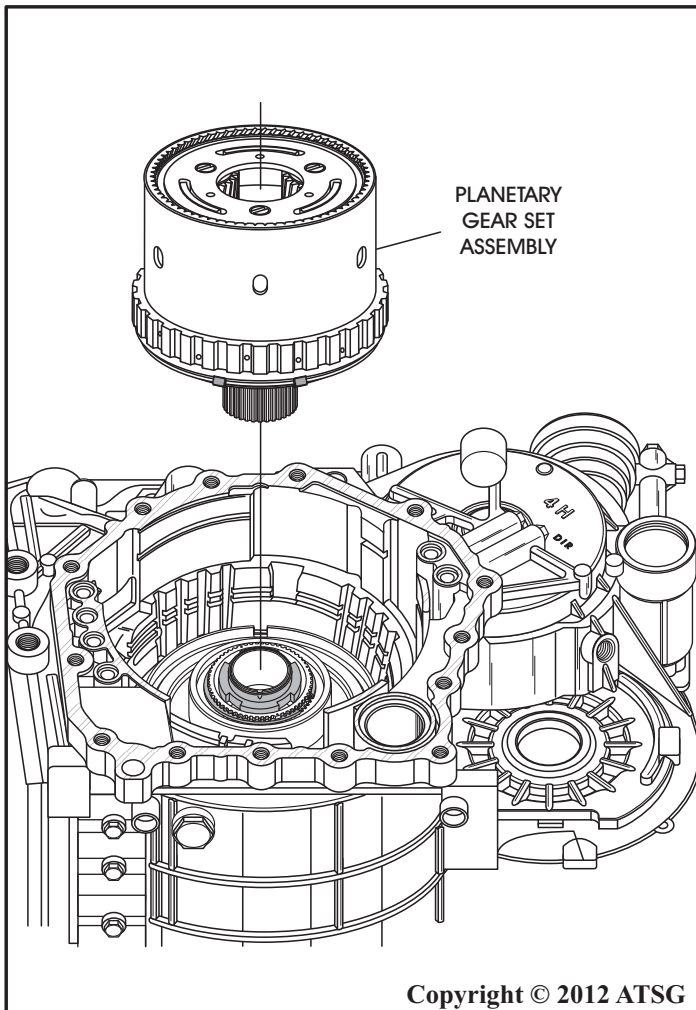

Figure 241
10. Now is the time to install the planetary gear set, as shown in Figure 241, to check for the proper operation of the low sprag (OWC-1).